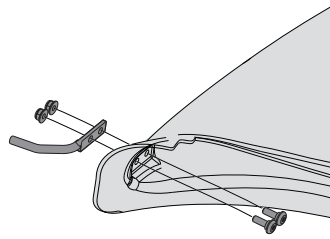

Figure 19
1. Install the boot rod mount (747-06043) to the boot using two shoulder screws (738-1225) and two flangelock nuts (712-04064) from hardware pack 689-00636. Ensure that the shoulder screws (738-1225) are installed on the interior of the boot. See Figure 19.